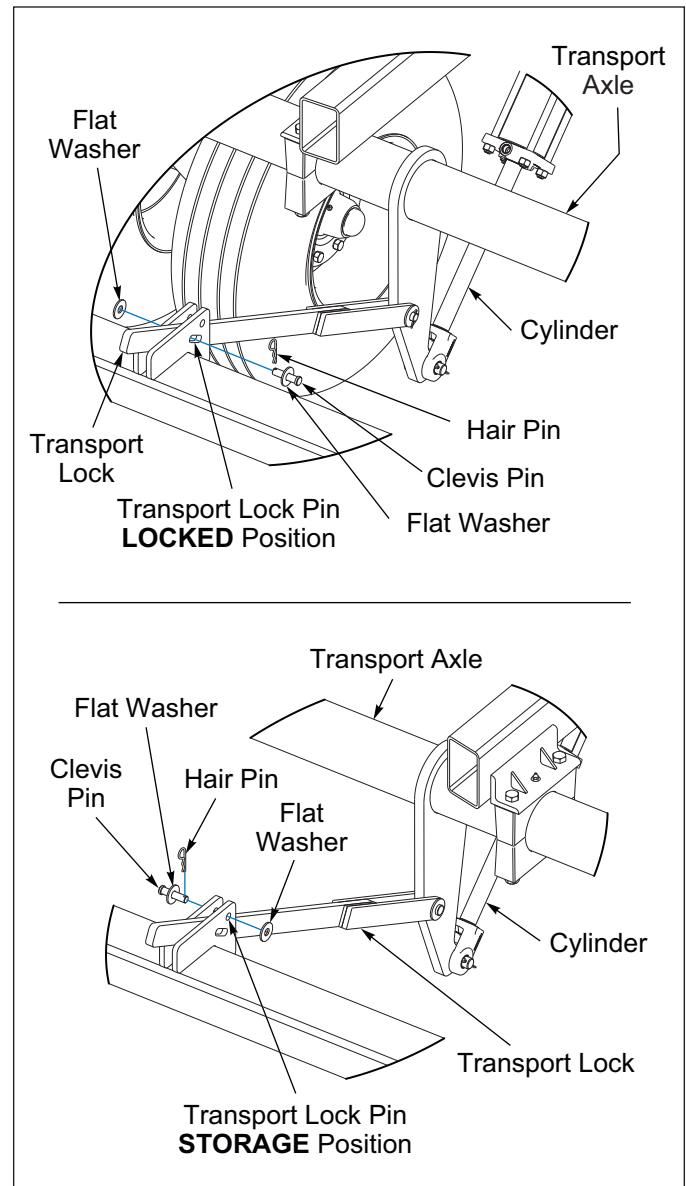

Figure 3-3: Transport Lock
3. Remove Drawbar Transport Lock Clevis Pin and Hair Pin for storage position in the Frame Lug and place it in the top hole of the drawbar side plate. **See Figures 3-3 and 3-4.**
10. Install transport locks on lift systems. Do not depend solely on implement hydraulics for transport. **See Figure 3-3.**